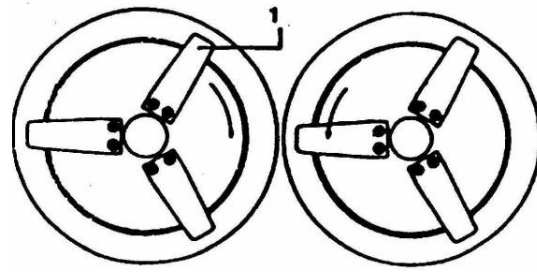

Fig. 9. Position of knife-holders.
- Fasten the knife-holders 1. (Fig. 9.) in another place to let the cutting tool adhere to an unworn surface.